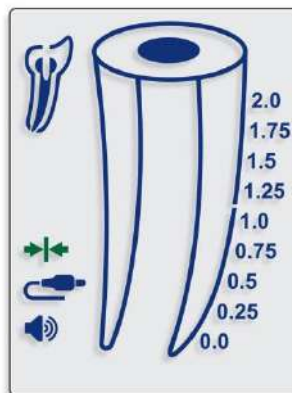

Fig. 3
- 5.3.2. “**Connection**” icon  should appear on the display, indicating proper connection (Fig. 3).